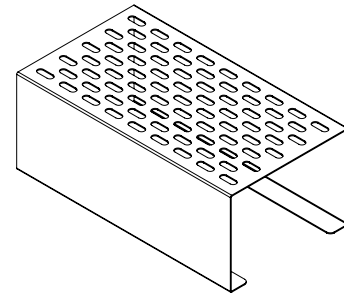

Figure 15
- (1) Fixed position metal shelf, see Figure 15.